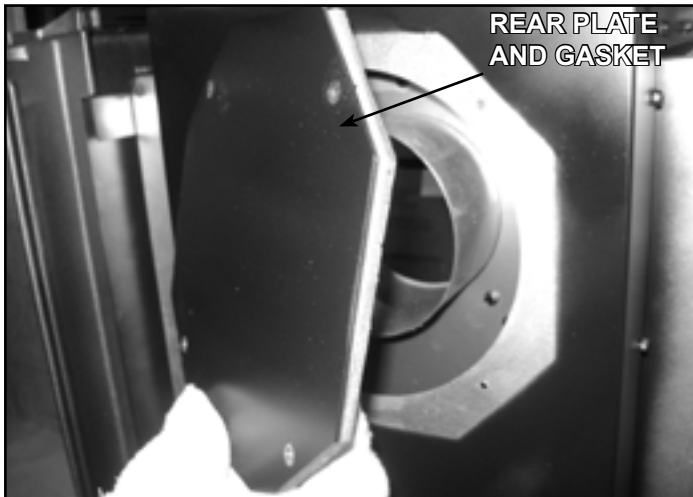

Figure 5.
7. Remove six screws under the rear access plate removed in Figure 5. See Figure 7. Install inner pipe adapter and new gasket (included with kit) using six screws. See Figure 8.
8. Install starting collar with gasket or high-temp sealant to rear vent opening. Attach with screws removed in Figure 5.